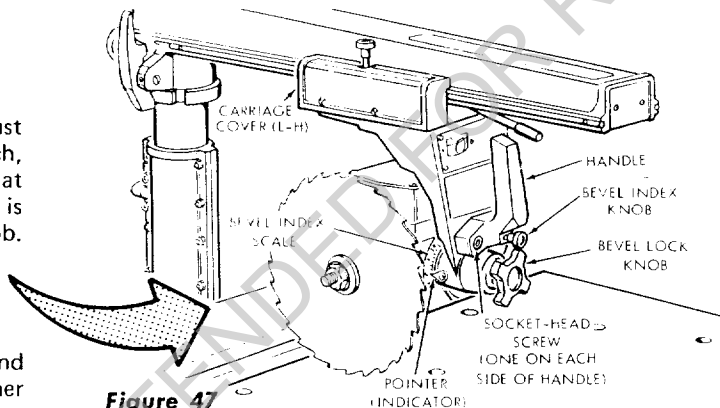

Figure 47
- (a) Loosen the bevel lock knob (figure 47) just slightly and, with a 5/16-inch hex-L wrench, loosen the two socket-head screws that secure the handle to the yoke. A screw is located at each side of the bevel index knob.